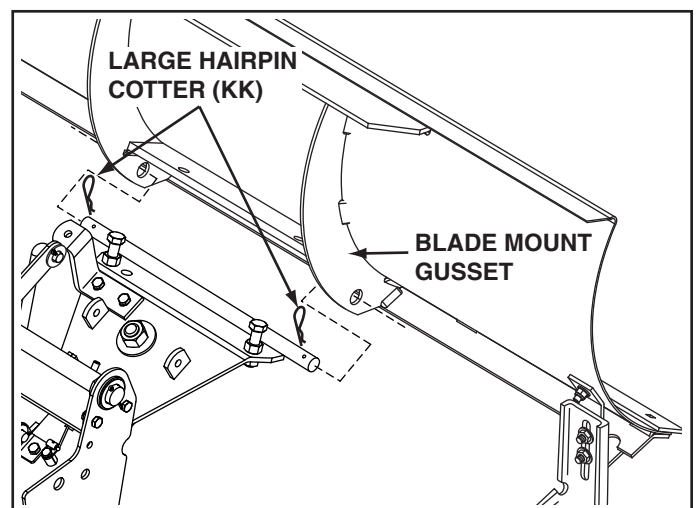

FIGURE 19
STEP 18: (SEE FIGURE 19)
- Align the channel pivot plate assembly behind the blade and guide the ends of the mounting rod, one end at a time, into the holes at the bottom of the blade mount gussets. Secure the mounting rod with two large hairpin cotters (KK).